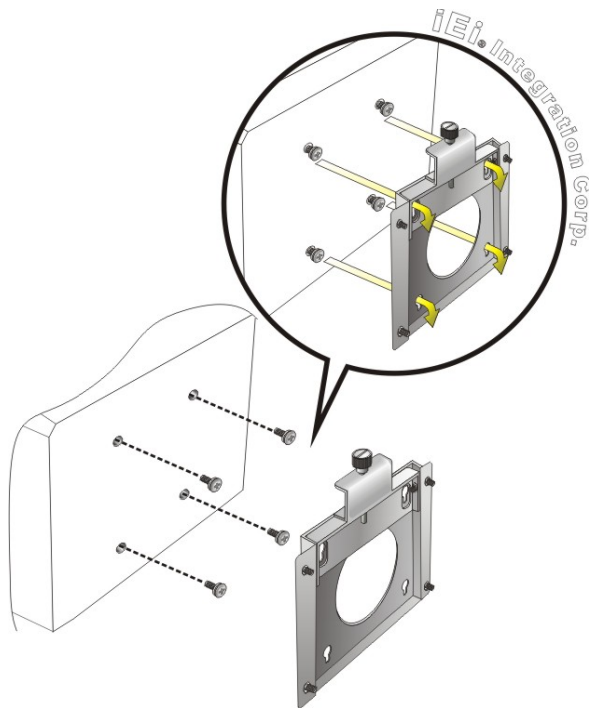

Figure 3-14: Chassis Support Screws
Step 6: Insert the four monitor mounting screws provided in the wall mount kit into the four screw holes on the rear panel of the flat bezel panel PC and tighten until the screw shank is secured against the rear panel (**Figure 3-14**).
Step 8: Carefully insert the screws through the holes and gently pull the monitor downwards until the monitor rests securely in the slotted holes (**Figure 3-14**). Ensure that all four of the mounting screws fit snugly into their respective slotted holes.